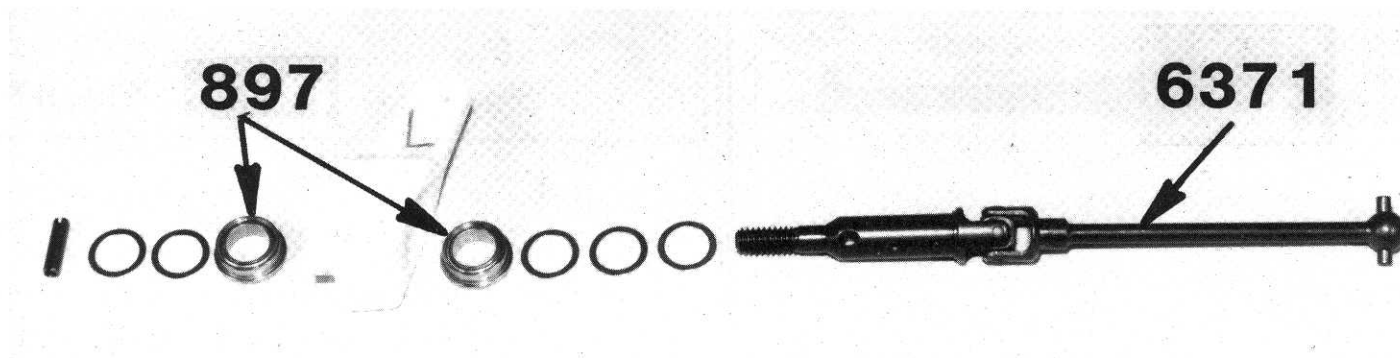
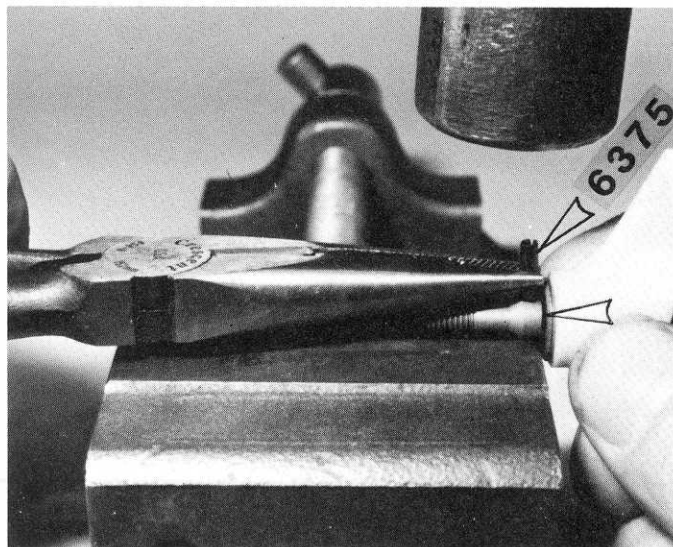

Fig. 84
Fig. 85
□ **Fig. 84** Take the #6371 universal dogbone drive-shaft and slip three of the thin washers on it and then slip it into the hub carrier ball bearings. Add two more of the thin washers and then install the roll pin as shown in Fig. 85. If the washers make the fit too tight, remove one of the outside washers.
□ **Figs. 85 & 85a** For this step you may need 3 hands, so get a friend to help you. Set the axle on a vise